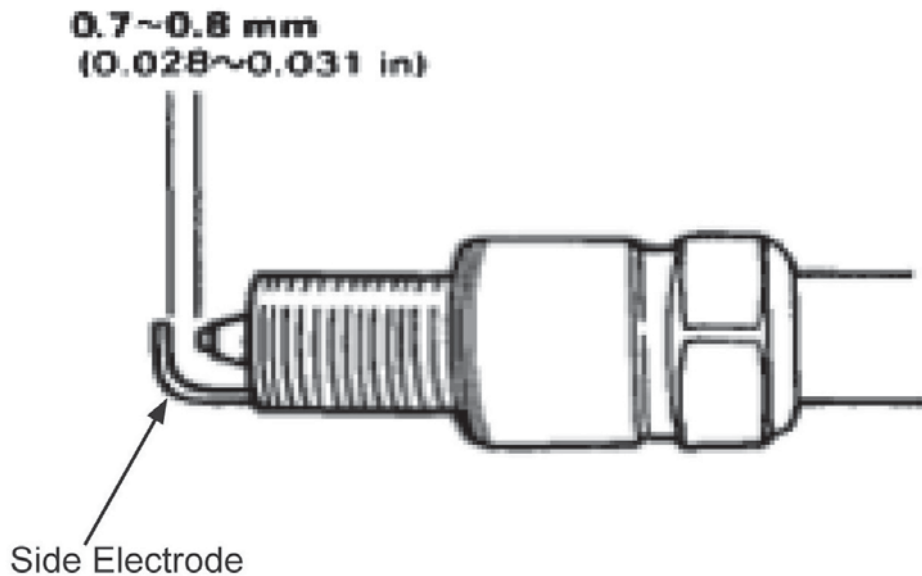

Fig. 5.13
6. Measure the plug gap with a feeler gauge. The gap should be 0.7 to 0.8 mm (0.028 to 0.031 inch). Correct as necessary by carefully bending the side electrode (Refer to Fig. 5.13)